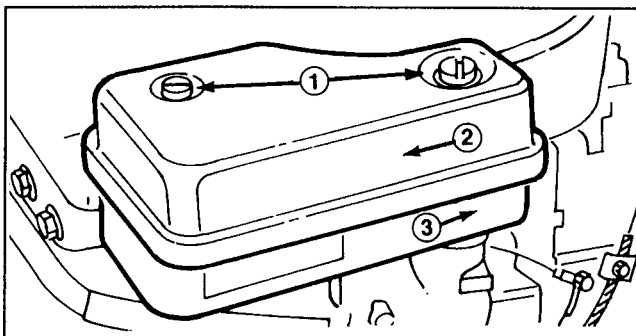

Figure 18
2. Remove two screws and lift complete air cleaner assembly off carburetor (Fig. 18).